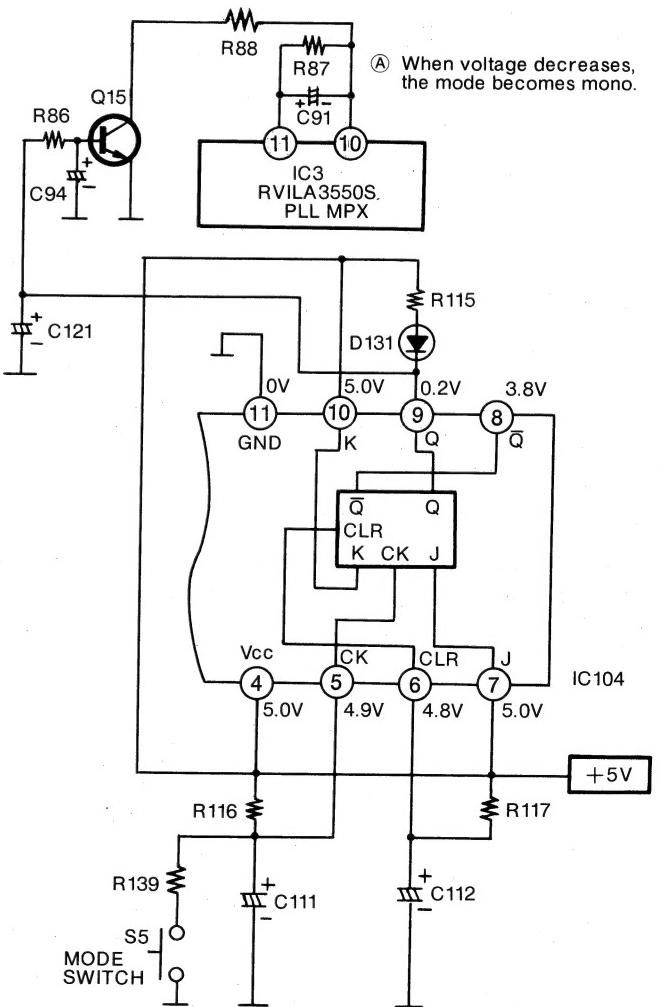

Fig. 12 Mode control circuit
- When the mode switch (S5) is pressed, DC output Level (Q) of the J-K flip-flop (IC104) becomes Low, and switching transistor Q15 is in the OFF condition. At this time, the mode LED (D131) illuminates.
- When in the FM auto mode, and (S5) is pressed once, DC output Level (Q) changes from Low to High level, and Q15 switches ON.
- When Q15 switches ON, the electric potential of point ④ in figure 12 drops, and the FM reception signal is forced to become monaural (Refer to the operation explanation of the PLL FM decoder.), finally making the mode become monaural.